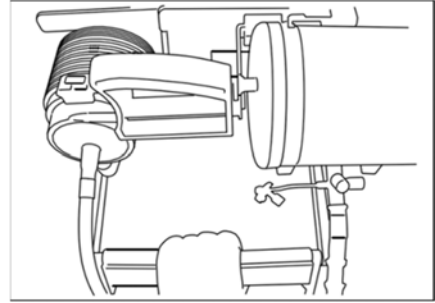

Figure 9
6. After the circuit is fully primed or almost fully primed, pull out the handle of the exclusive holder (XX*EB04) (Figure 9).